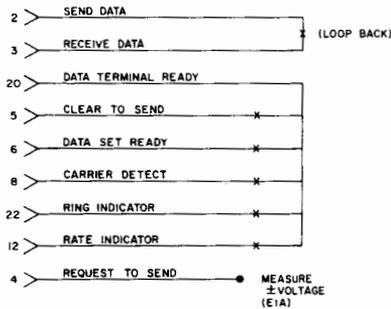

Fig. 1—Jumper Plug
2.01 Testing should be performed on-line using ADTS or a Data Test Center in which case no local test equipment is required. If testing with ADTS or a Data Test Center is not possible, on-line test can be simulated using either a 921A Data Test Set, version 4 or higher or a 403378 jumper plug. The 403378 jumper plug can be purchased from Teletype Corporation or made locally (Fig. 1).